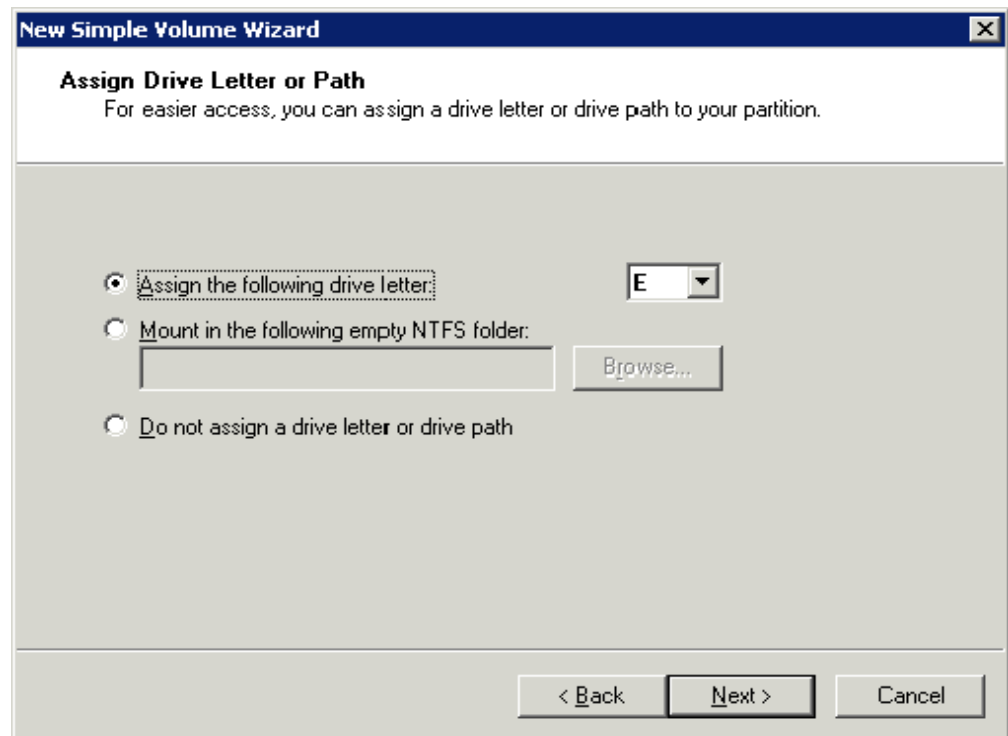

Figure 2-19: Assign Drive Letter or Path Panel
6. When the Assign Drive Letter or Path panel appears (Figure 2-19), select a drive letter or path, or specify no drive letter or drive path. Click **Next**.